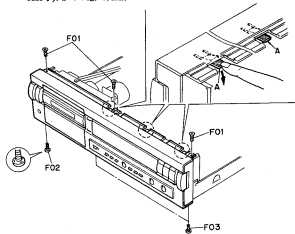
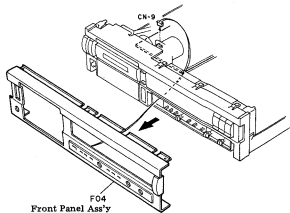

Fig. 2.4.1
Fig. 2.4.2
Refer to Figs. 2.4.1 and 2.4.2.
- (1) Remove the Top Cover Ass'y referring to item 2.1.
- (2) Loosen screws F03 (2 pcs.), F02 (1 pc.) and F03 (2 pcs.). See Fig. 2.4.1.
- (3) Press claws A (3 pcs.) downward to unhook them.
- (4) Disconnect a connector (CN-9) and remove F04 (Front Panel Ass'y). See Fig. 2.4.2.